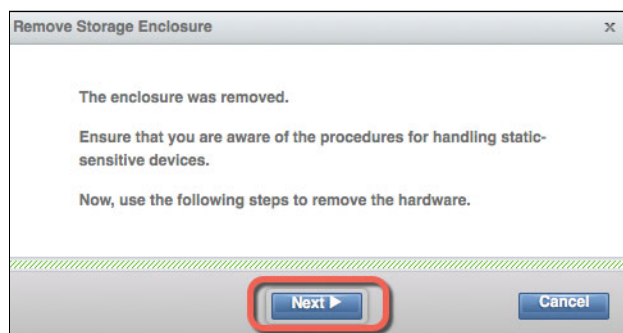

Figure 7-35 Remove storage enclosure
10. The storage enclosure is now removed from the system. The wizard (Figure 7-35) will lead you through deinstalling the storage enclosure.